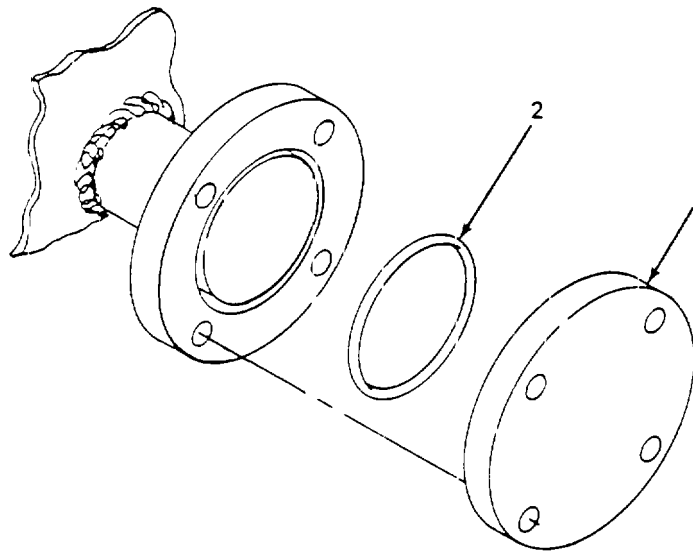

Figure 6-13. Blank Penetrator, Repair.
h. Repair Blank Penetrator. (figure 6-13)
- (1) Remove blank penetrator (para. d. above).
- (2) Clean all components using nonionic detergent cleaner and rinse with clean distilled water.
- (3) Inspect cover, blank plate (1) and replace if stripped threads, bent, cracked, or otherwise damaged.
- (4) Apply grease to preformed packing (2).
- (5) Install blank penetrator (para. d. above).